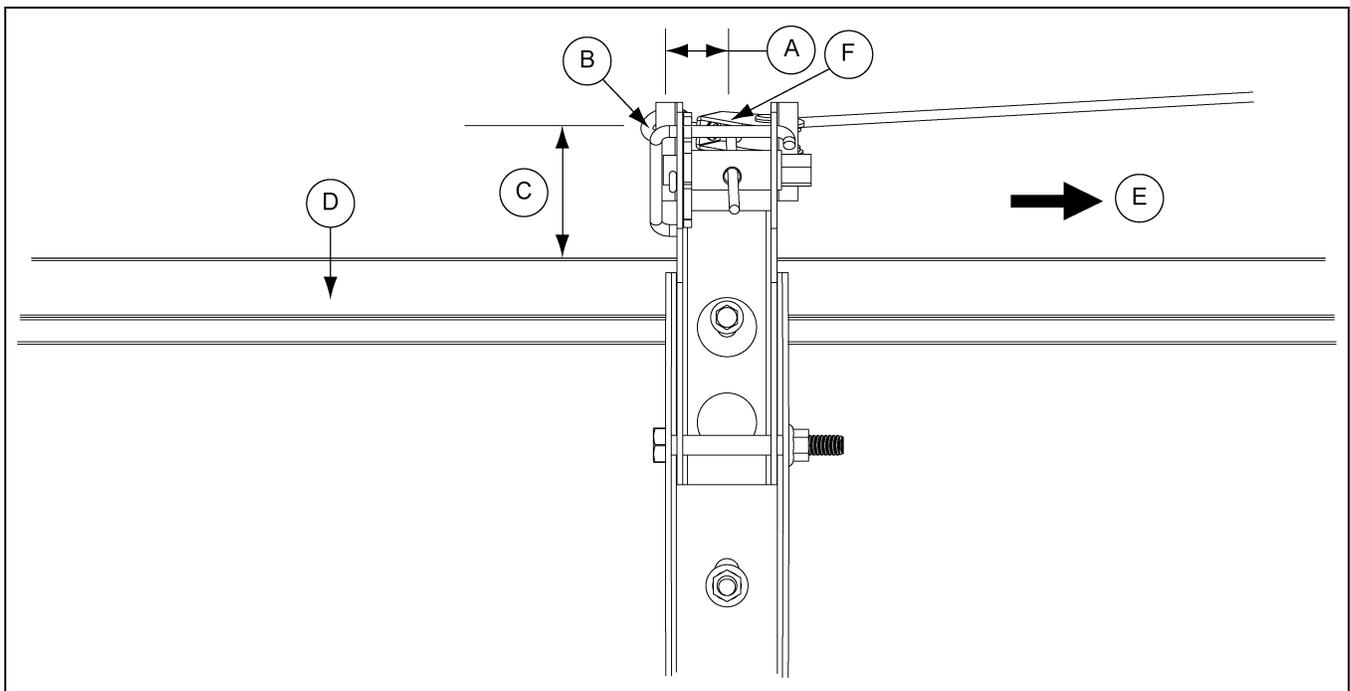

Figure 30
1. Install 5/16" x 3-3/4" threaded lag hook (1004-1395) (B) approximately 3/4" (A) (opposite the actuator side (E)) from the center of the winch ratchet assembly (30-0681W) and 2" (C) from the top of the tunnel door (D).
2. Slide pulley (CW-2001) (F) onto lag hook (1004-1395) (B).
3. Continue for each winch ratchet assembly (30-0681W). (See Figure 30.)